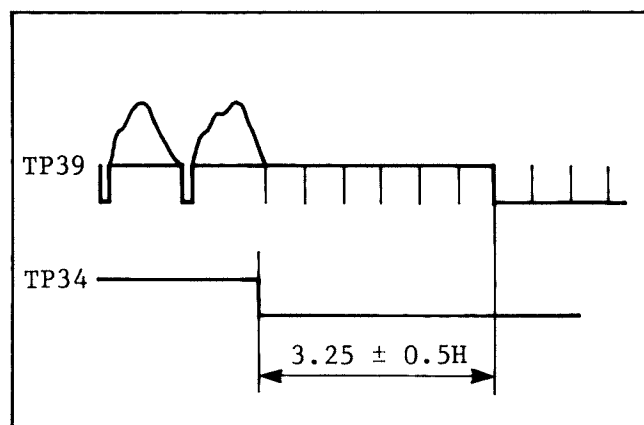

Fig. 2-4-11. REC SHIFTER
5. Adjust VR14 (REC SHIFTER) so that the falling edge of the switching pulse is $3.25H \pm 0.5H$ before the start of the vertical sync, as shown in Fig. 2-4-11.